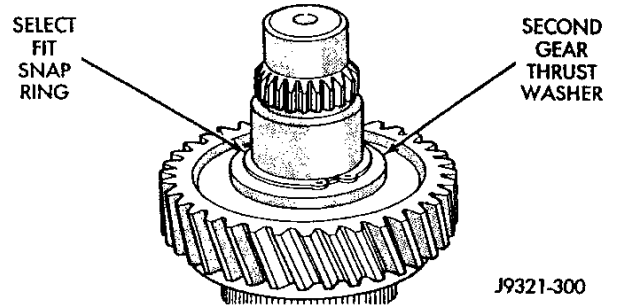

Fig. 38 Second Gear Snap Ring Installation
(5) Install second gear snap ring (Fig. 38). Snap ring is select fit part. Use thickest snap ring that will fit.